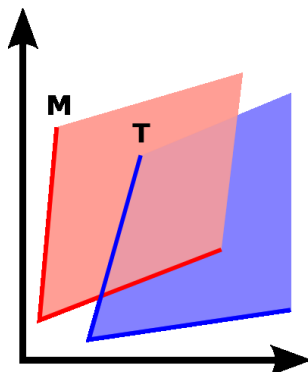

Figure B.2: Target crosses monitor
- (b) Target gamut crosses monitor gamut (Figure B.2).